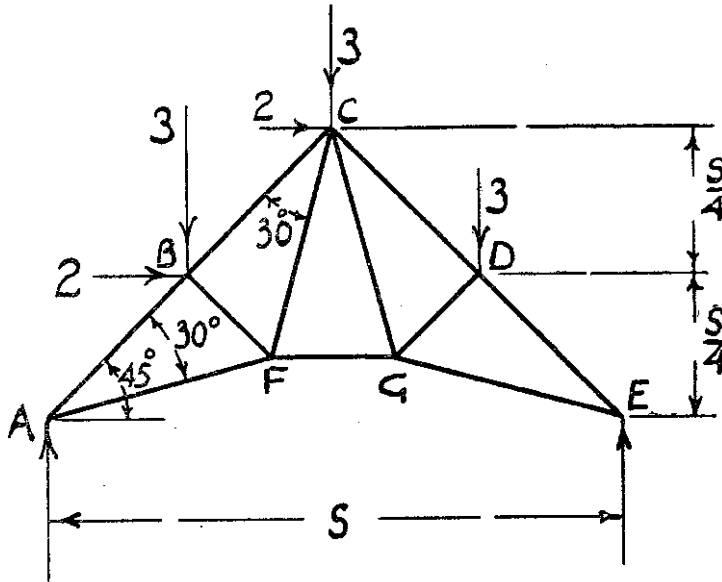

FIGURE 4
8. Figure 4 shows a pin-jointed frame which carries vertical loads of three units at B, C and D and horizontal forces of two units at B and C. There is no horizontal reaction at A.